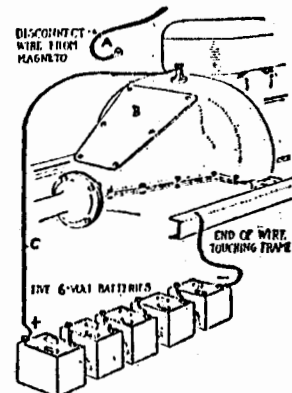

Fig. 96. Remagnetizing Ford magnets with storage batteries.
**Remagnetizing with storage batteries:** Five or six, 6-volt storage batteries should be about right. Refer to Fig. 96.
**Connections:** Connect wire from positive (+) terminal of battery to magneto terminal on engine, as shown at (C) (Fig. 96).